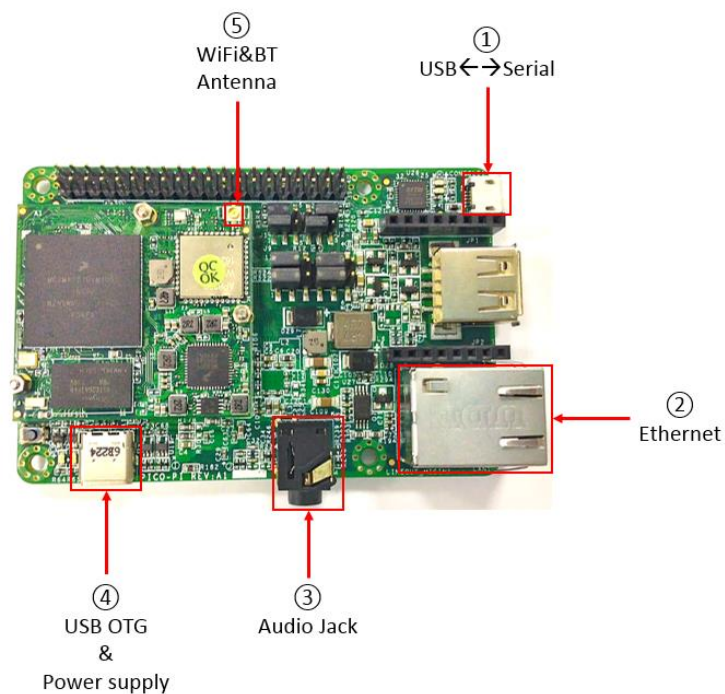

Figure 1. Top view of the PICO-i.MX7D board
The key interfaces of the board are shown in Figure 1:
- USB to serial console convertor interface (Number 1 in figure 1)
- WiFi+Bluetooth antenna connector (Number 5 in figure 1)
- Microphone and headphone jack (Number 3 in figure 1)
- USB OTG (USB Type-C) and power supply interface (Number 4 in figure 1)
1. Connect the USB type-A to micro USB's micro USB end to the micro USB interface (number 1 in figure 1).
2. Connect the WiFi antenna to connector (number 5 in figure 1).
3. Get a USB type A to USB type C cable. Plug the USB type C end to the USB OTG type C connector (number 4 in Figure 1) for ADB and FASTBOOT interface. Plug the other end of the USB cable to your computer. This interface also be the power supply for the board.